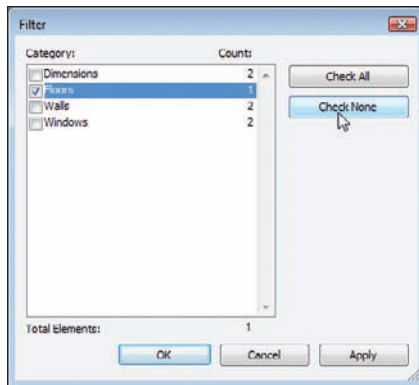

FIGURE 6.35 Uncheck all the elements, and then check Floors.
4. In the Filter dialog, click the Check None button, as shown in Figure 6.35.
5. Check the Floors option (see Figure 6.35), and click OK.